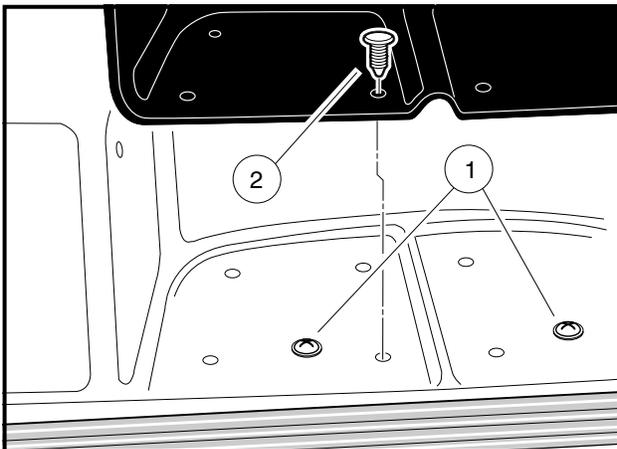
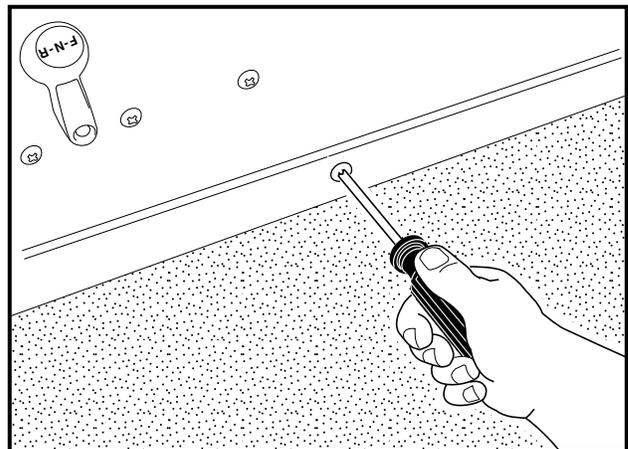

Figure 4-3 Remove Screws Under Bagwell Protector
Figure 4-4 Remove Kick-Plate Screws
3. Remove bagwell protector by gently pulling the bagwell protector at each plastic barrel (2) (**Figure 4-3, Page 4-7**).
4. Remove the two screws (1), lock nuts and washers located under bagwell protector in bagwell floor.
5. Remove the two screws, nuts and washers located at the bottom edge of the seat support panel (in kick-plate just above the floormat) (**Figure 4-4, Page 4-7**).
- 1.5. Tighten kick-plate screws, nuts and washers to 48 in-lb (5.4 N·m) (**Figure 4-4, Page 4-7**).
- 1.6. Tighten two screws (1), lock nuts and washers under rear body to 33 in-lb (2.8 N·m) (**Figure 4-3, Page 4-7**).
2. Loosen two screws in the rear body kick-plate (**Figure 4-4, Page 4-7**) and pull the rear edge of the floor-mat from between the rear body and the floor panel.